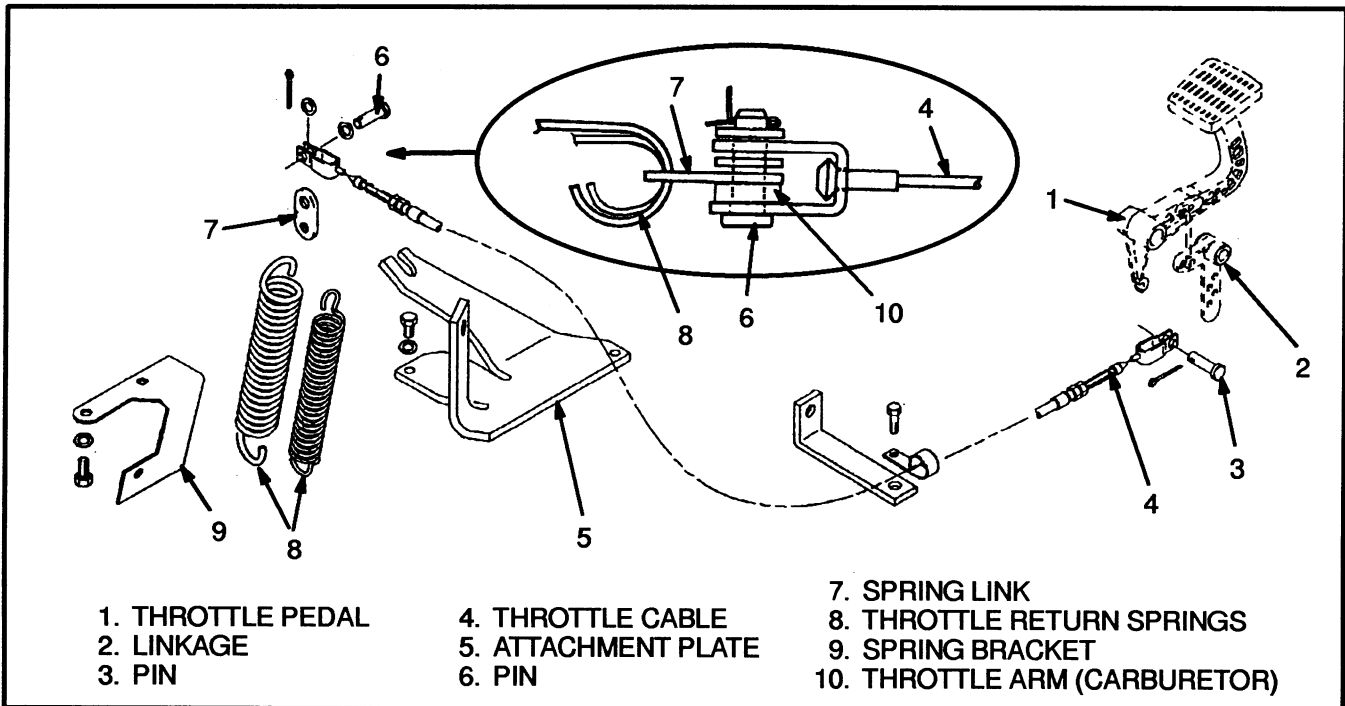

FIGURE 18. THROTTLE CABLE ARRANGEMENT
3. Connect the throttle linkage as shown in FIGURE 18. Make sure the head of the pin is toward the carburetor.
(See FIGURE 18.)